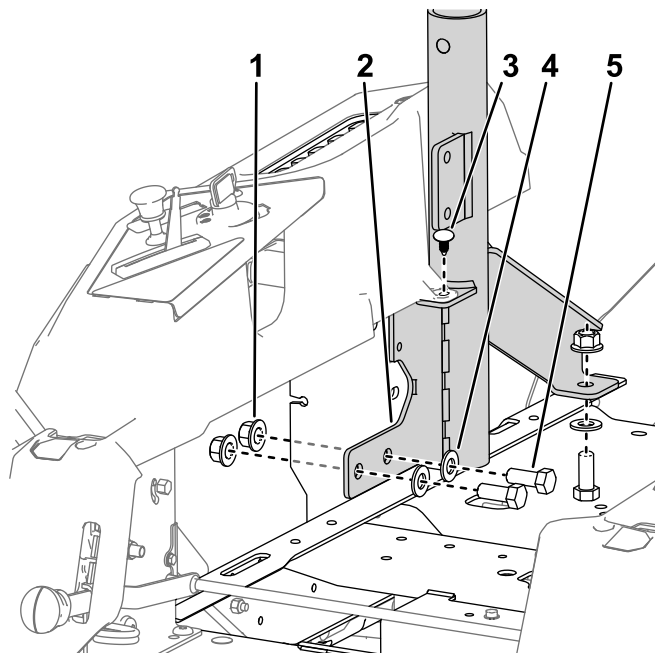

Figure 4
3. Secure the tabs on the pods to the ROPS mount with narrow push rivets (Figure 4).